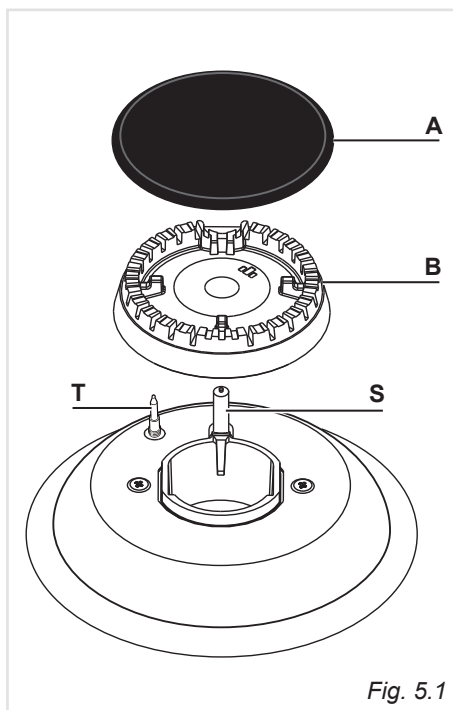

Fig. 5.1
- Check that the probe "T" (figs. 5.1, 5.3) next to each burner is always clean to ensure correct operation of the safety valves.
- Check that the electrode "S" (figs. 5.1, 5.3) next to each burner is always clean to ensure trouble-free sparking.
It is very important to check that the burner flame spreader "B" and the cap "A" have been correctly positioned (see figs. 5.1 and 5.2). Failure to do so can cause serious problems.